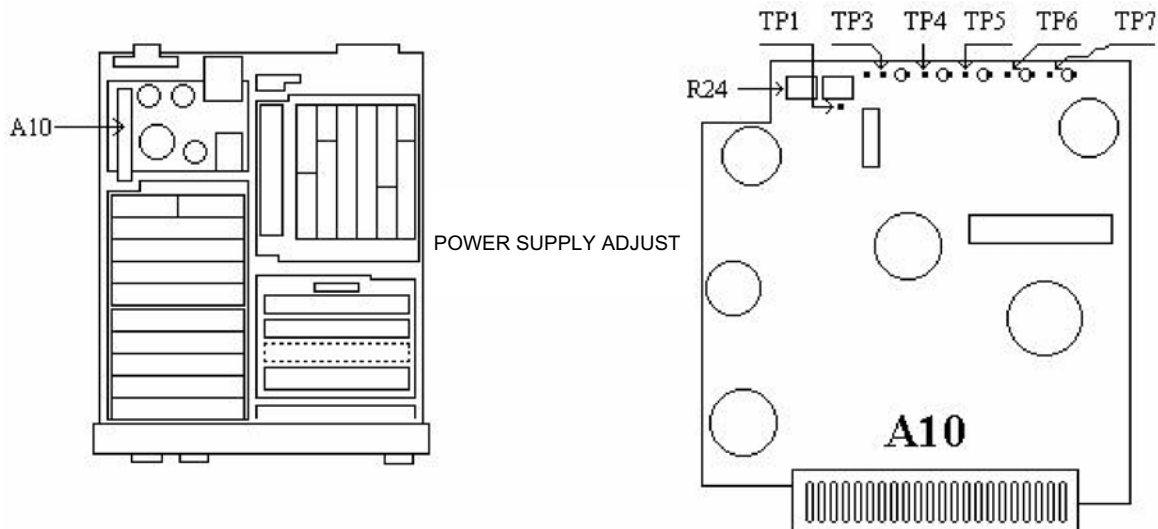
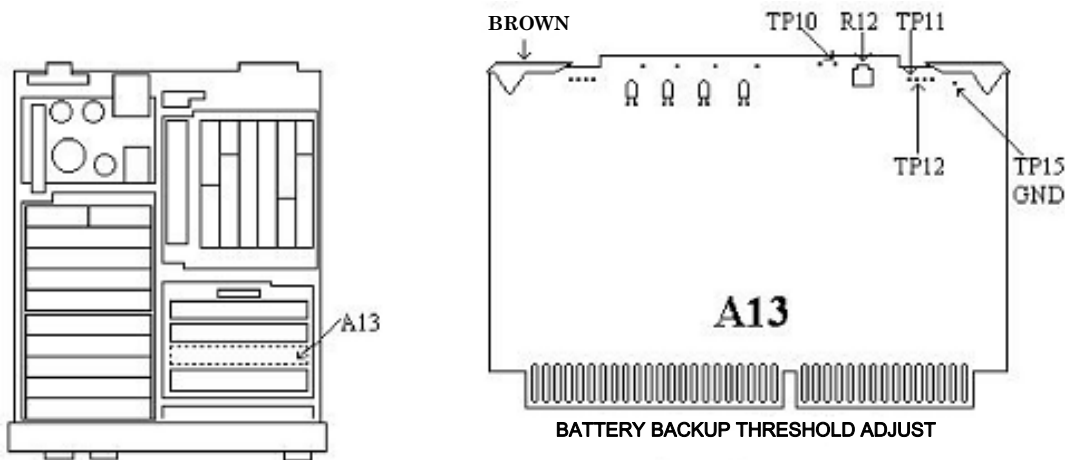

Figure 20. A10 board.
Figure 21. A13 board.
(1) Connect multimeter between TP1 (fig. 20) (ground) and TP3 (fig. 20) (positive), and set multimeter to read V dc.
(2) If multimeter indication is not between 14.99 and 15.01 V dc perform **b** below.
(3) Move positive lead from TP3 to TP4 (fig. 20) and verify multimeter indicates between -15.2 and -14.8V dc.
(4) Move positive lead from TP4 to TP5 (fig. 20) and verify multimeter indicates between 4.9 and 5.2 V dc for serial number 2305A to 2616A and between 5.1 and 5.2 V dc for serial number 2618A and above.
(5) Move positive lead from TP5 to TP6 (fig. 20) and verify multimeter indicates between -4.9 and -5.2 V dc for serial number 2305A to 2616A and between -5.4 and -4.9 V dc for serial number 2618A and above.
(6) Move positive lead from TP6 to TP7 (fig. 20) and verify multimeter indicates between 40.5 and 42.5 V dc.
(7) Disconnect multimeter from A10 board.
(8) Connect multimeter to A13TP10 (fig. 21) (positive) and A13TP15 GND (fig. 21) (negative).
(9) Measure and record dc voltage as level No. 1.
(10) Move positive lead from A13TP10 to A13TP12 (fig. 21) and record dc voltage as level No. 2.
(11) Calculate 2/5 of level No. 1 and 1/6 of level No. 2.
(12) Multiply the lowest voltage calculated in (11) above by 0.95 and record as threshold.
(13) Move positive lead from A13TP12 to A13TP11 (fig. 21) and adjust A13R12 (fig. 21) until multimeter indicates within ± 0.05 V of threshold value. (R)
(14) Disconnect equipment setup.
b. Adjustments. Adjust A10R24 (fig. 20) for a multimeter indication of $15 \text{ V} \pm 0.01 \text{ V}$ dc. (R)